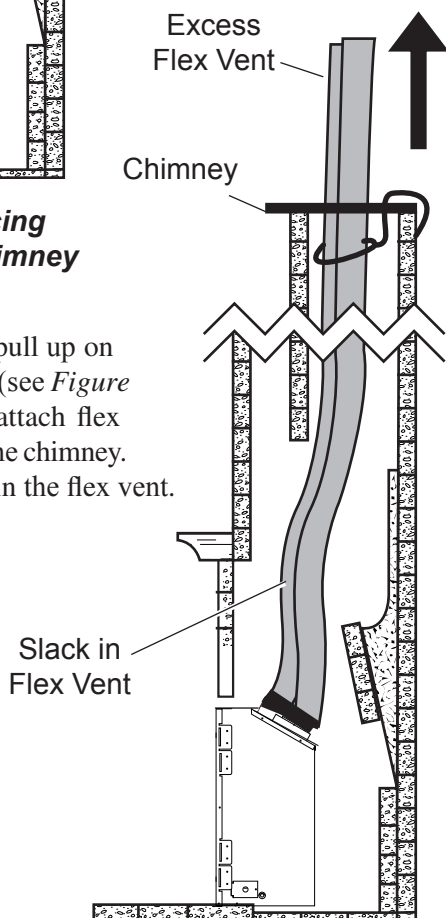

Figure 33c - Pulling On Excess Flex Vent
5. Have someone pull up on the excess flex vent (see Figure 33c). Temporarily attach flex vent to the top of the chimney. Remove any slack in the flex vent.